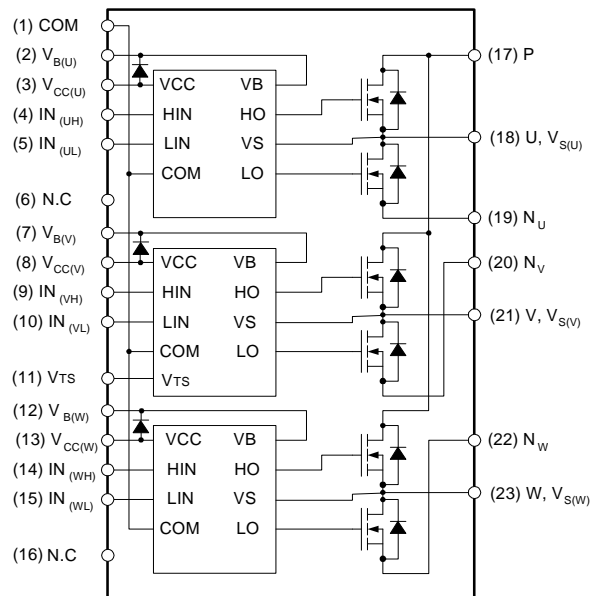

Figure 2. Pin Configuration and Internal Block Diagram (Bottom View)
1. About pin position, refer to Figure 2.